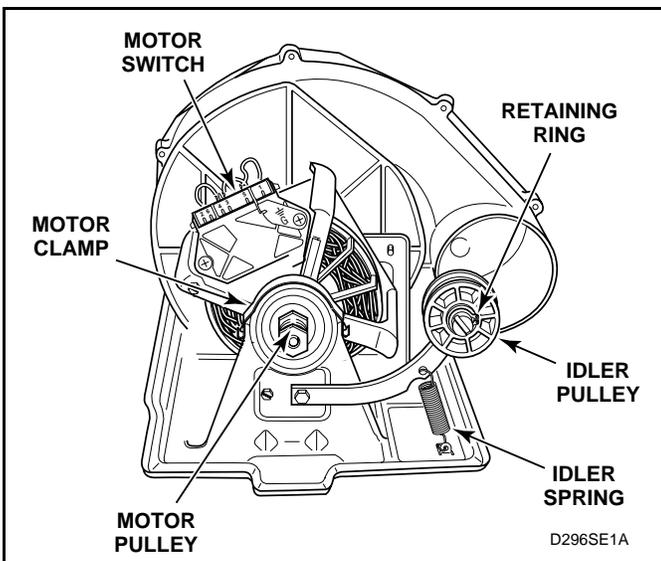

Figure 43
See *Figure 43* for motor and idler pulley removal.
- (2.) Pry two motor clamps off motor mounting bracket with screwdriver. See *Figure 43*, then lift motor out of mounting bracket.